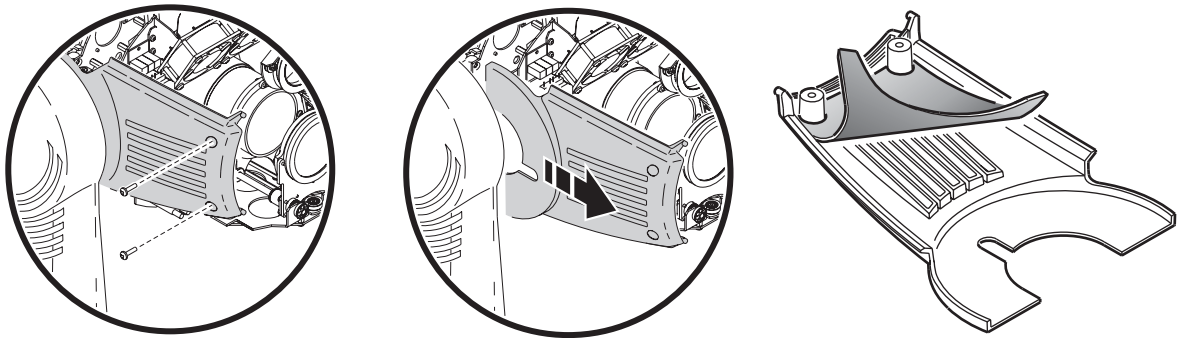

Figure 18: Air filter replacement
6. On each side of the head, remove the 2 screws that hold the side covers. Slide the covers forward to remove. Clean the air filters or replace them. If they are saturated with smoke fluid, etcetera, soak them in warm soapy water and blot dry. Position the filters on the side covers and reinstall. See Figure 18.